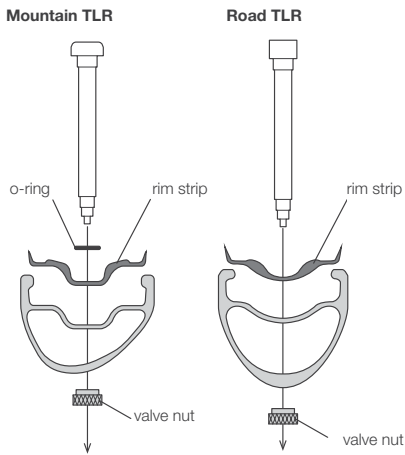

Figure 10. The U shape of the rim strip should face towards the center of the rim.
2. Align the rim valve hole and the valve hole of the rim strip. The U shape of the rim strip should face toward the center of the rim and offset rim strips should match the offset in the rim (Figure 10).
3. Place the Tubeless Ready valve through the rim strip's valve hole and then through the rim. On mountain rims, make sure that the rubber o-ring is on the valve before dropping it into rim (Figure 10).